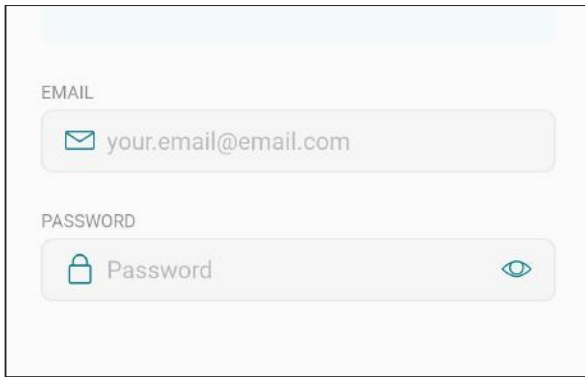

Figure 71. Log in the Raymote Mobile App
- Open the Raymote mobile app and log in with your user name and password. See Figure 71.